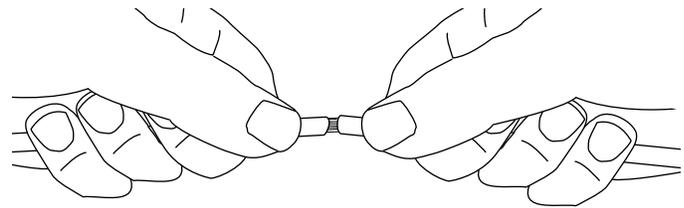

Figure 4
4.4 Flex the cable causing the outer jacket to separate (Figure 4).